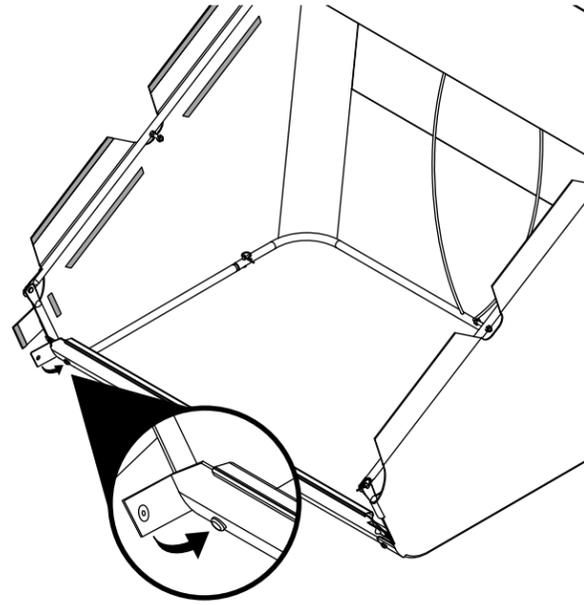

Figure 14
STEP 14 (SEE FIGURE 14): Snap the sides of the hopper bag to the bottom of the hopper bag at the front corners.